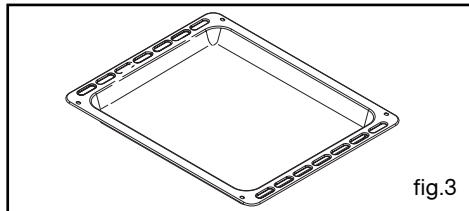

fig.3
• Plat lèchefrite multi-usages *fig.3*